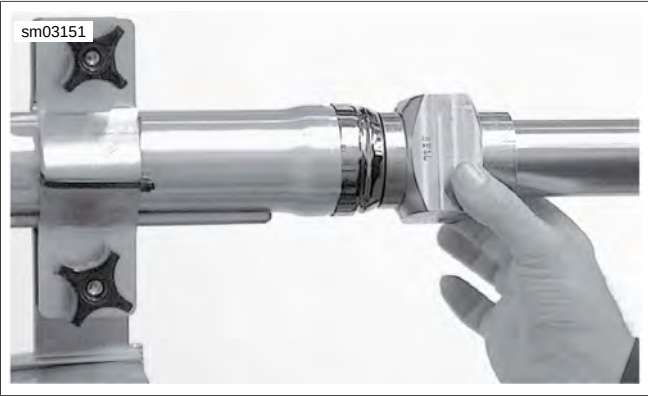

Figure 2-112. Install Chrome Dust Cover
6. See Figure 2-112. Remove FORK SEAL DRIVER and reverse tool to short side of tool to install chrome dust cover. Rotate slider cover to match any removal burrs in slider and tap chrome dust cover into place.